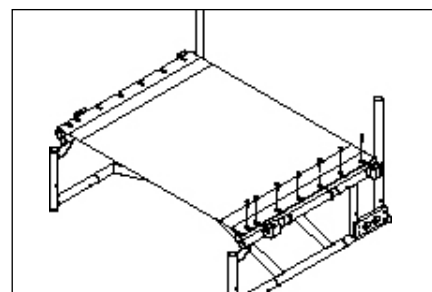

Figure 7
F. SEAT SLING ADJUSTMENT (Fig. 7)